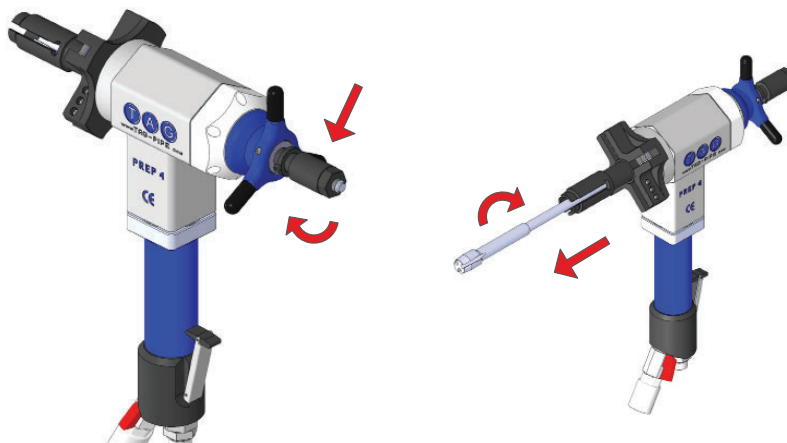
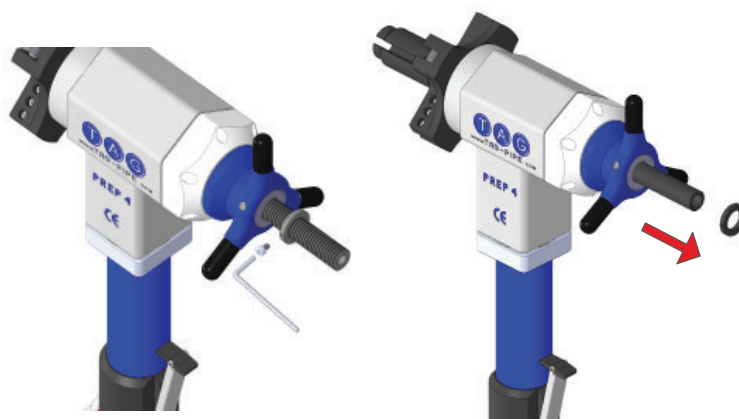

Figure 3-3 Removing the inside shaft
Figure 3-4 Removing the stop ring
7. Reinstall the Allen screw on the stop ring and screw the lock nut back on, referring to Figure 3-3 and Figure 3-4. Tighten the lock nut all the way down.
5. Screw the lock nut back on by turning it clockwise (refer to Figure 3-3 on page 16).